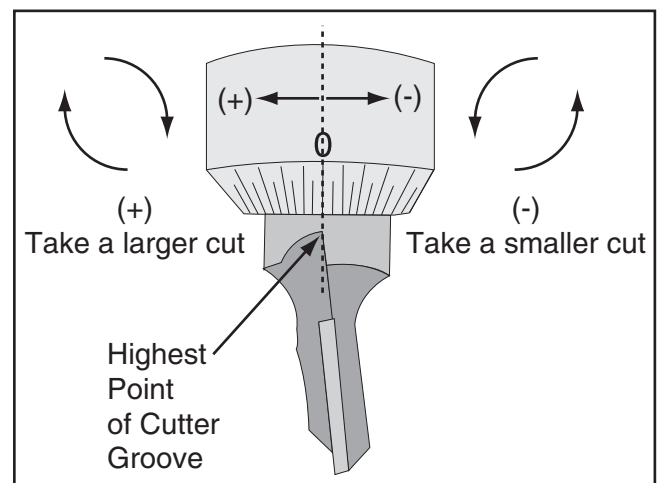

Figure 47. Understanding cutter adjustments.
4. Rotate the cutter inside the spindle as necessary to take a smaller or larger cut (see **Figure 47**). Use the highest point in the cutter groove to keep track of the cutter position during adjustments.